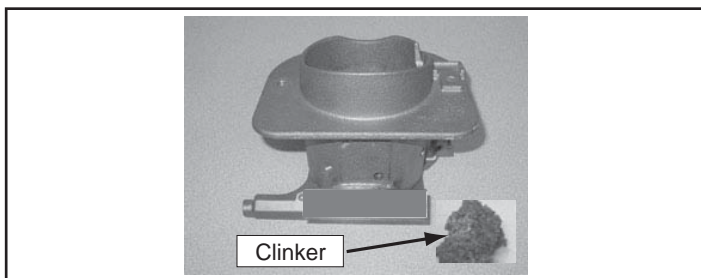

Figure 16.1 - Firepot with large clinker
- It may be necessary to use your firepot clean-out tool to chip away material that has built up on the sides of the firepot and to push out any clinkers. **Figure 16.1**